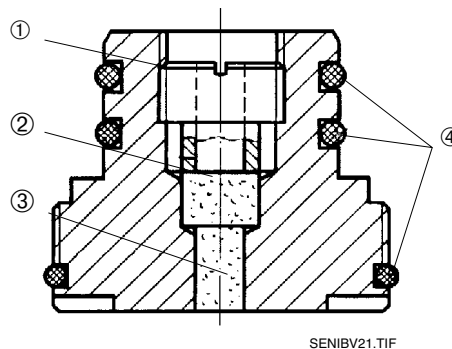

Fig. 24: Diaphragm cartridge DKV-HT
- The RDV-HT diaphragm in the DKV-HT diaphragm cartridge is replaceable. Using a screwdriver, remove a banjo bolt on the inner side of the cartridge (see figure 24) and press out the diaphragm insert towards the inside. Once the new diaphragm insert has been installed, proceed in reverse order.